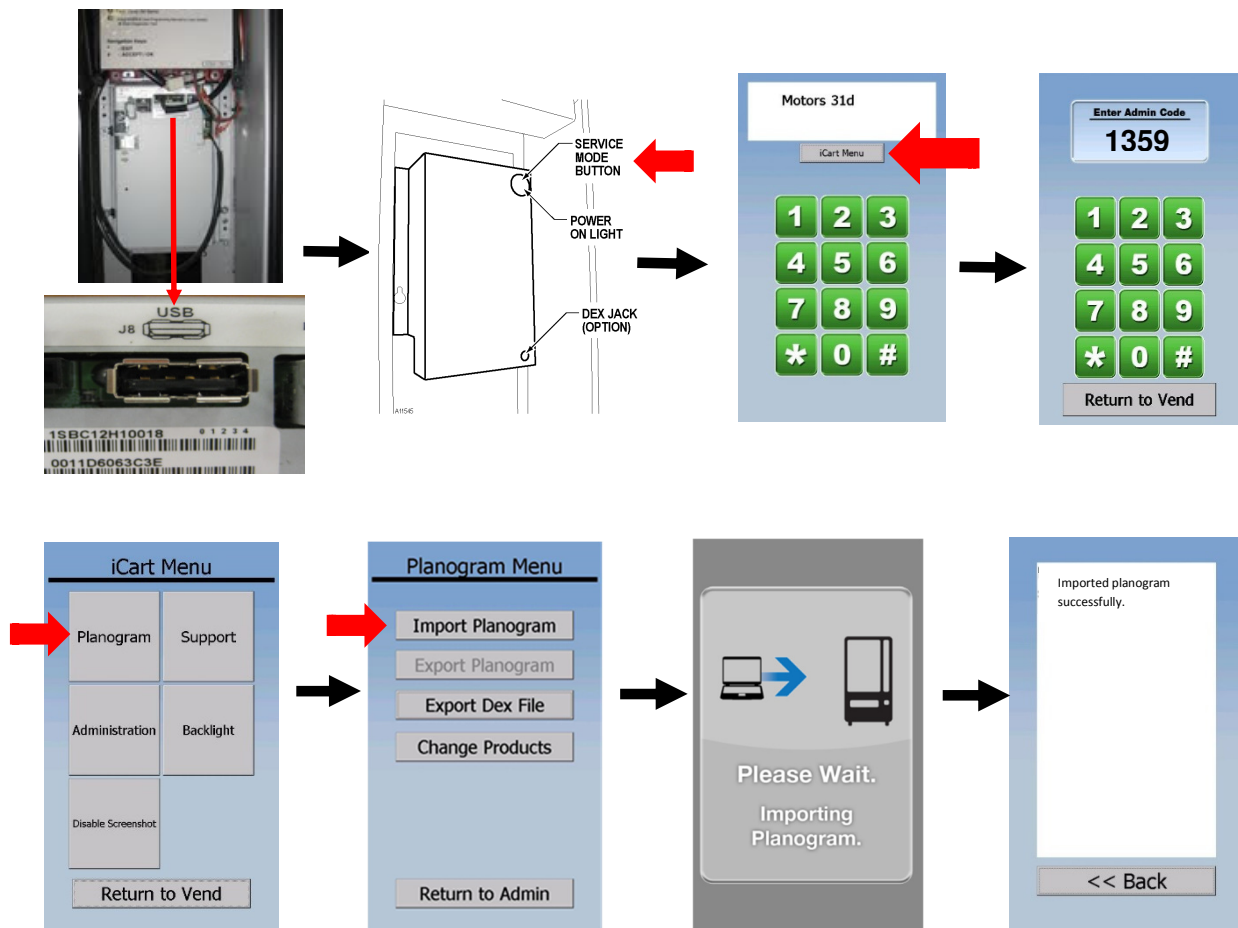

Figure 57
1. Open the machine door and locate the USB port on the back of the touch screen and insert the USB flash drive (See figure 57).